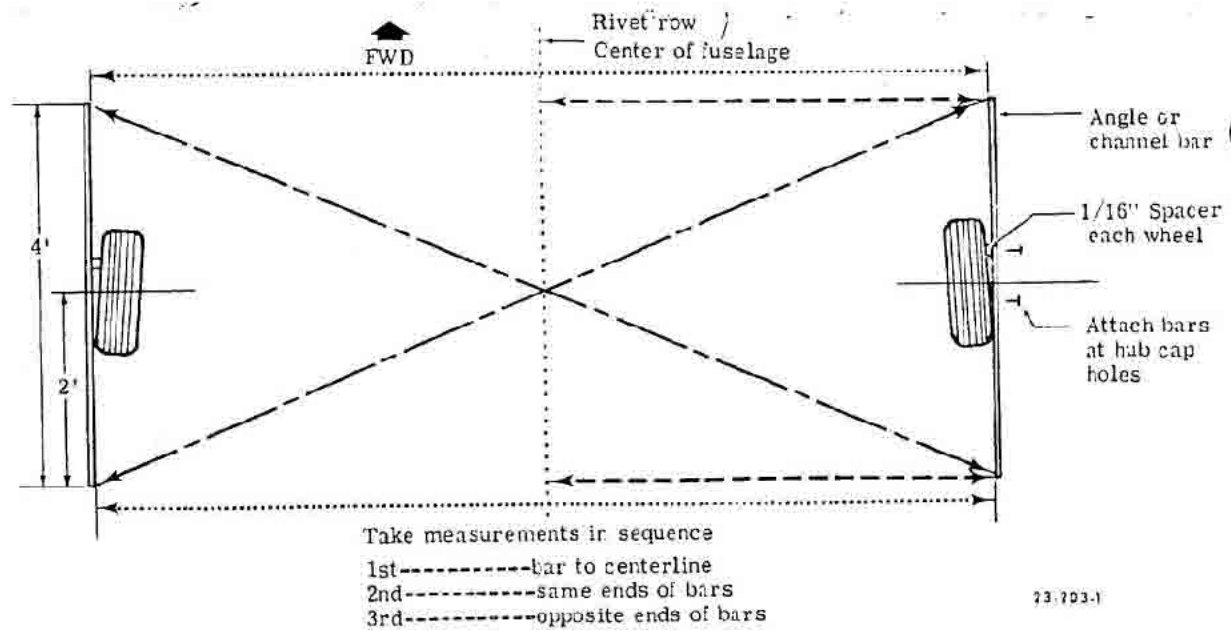

Figure 3-23. Main Wheel Alignment
(Figure 3-23)
- b. The wheels are aligned with a 1/16 to 1/8 inch (see in by fabricating two) straight angle (n) channel bars (see Figure 3-23) from material of sufficient strength to insure accurate measurements.
d. The first wheel must be aligned from the centerline of the airplane by using the center row of rivets (see Figure 3-23) on the belly section as a reference line. Use a straight edge and mark a centerline from these rivets.
h. A further check for correct alignment may be obtained by measuring diagonally between opposite ends of the bars (see Figure 3-23).